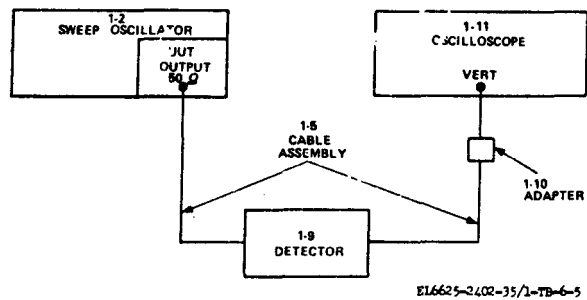

Figure 6-5. Internal square wave, equipment setup.
- (1) Connect equipment as shown in figure 6-5.
- (2) Position sweep oscillator controls as follows: